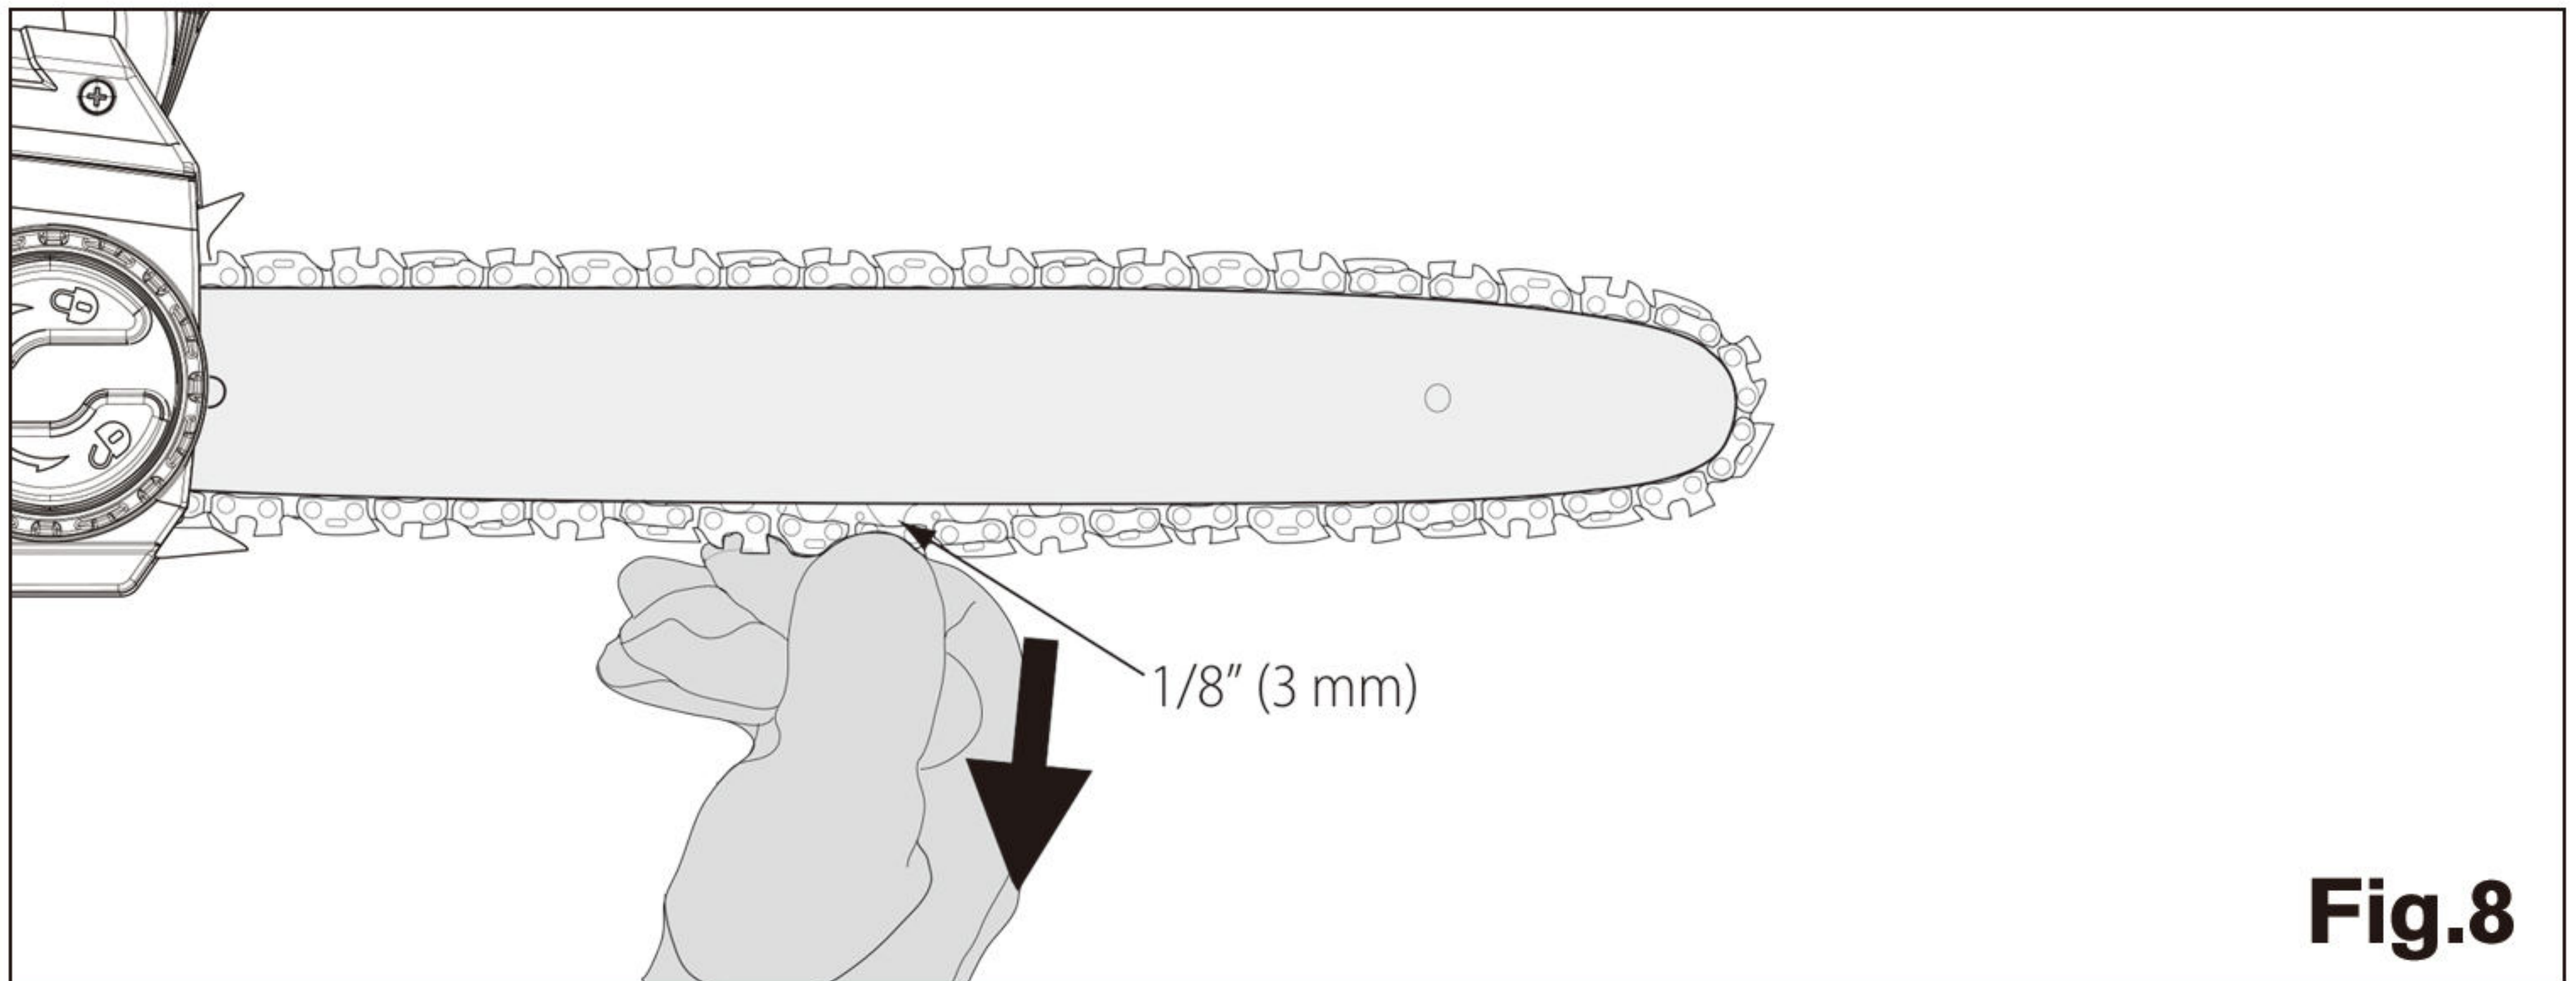

Fig.8
1. Check the chain tension by pulling the saw away from the guide bar. A properly tensioned chain should have roughly 1/8 inch of distance between itself and bar guide. (**Fig.8**)